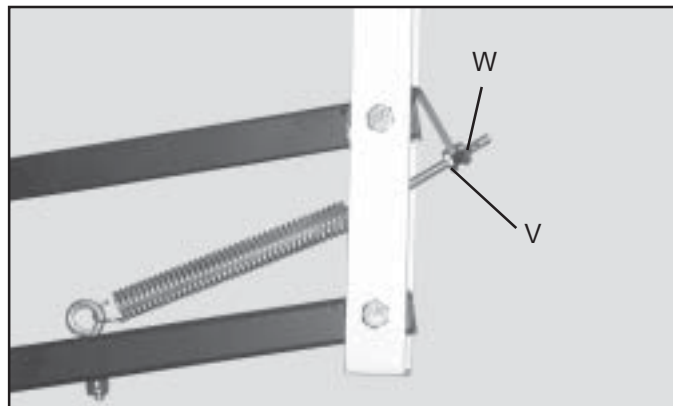
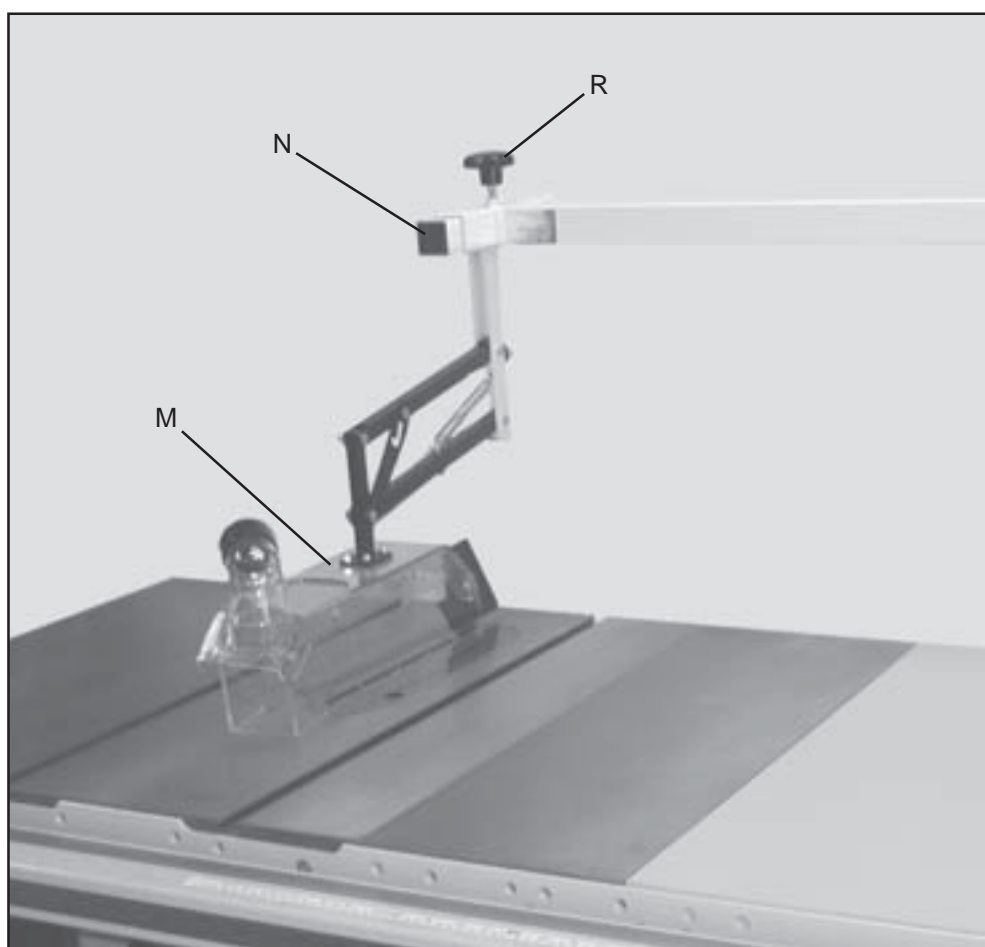

Fig. 26
Fig. 27
24. There is an adjustment screw to achieve the desired weight of the guard basket (M) Fig. 27, on the workpiece. To make an adjustment, loosen locknut (V) Fig. 26, and turn wing nut (W) clockwise to decrease the pressure or counter-clockwise to increase the pressure. After the desired pressure is achieved, tighten locknut (V).
25. Front to back movement of the blade guard basket (N) Fig. 27, is obtained by loosening locking knob (R) and sliding basket body arm (N) in or out as desired. Always tighten locking knob (R) after adjustment is complete. NOTICE: IT IS RECOMMENDED THAT THE BACK OF HOOD ASSEMBLY (M) BE POSITIONED 3/8" IN FRONT OF THE SPLITTER BLADE.